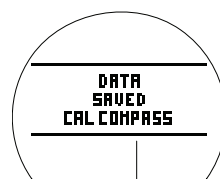

Fig. 140 - DATA HAS BEEN SAVED
- > Graphics DATA SAVED (or CLEARED) with CAL COMPASS appear for 3 seconds (Fig. 140), then operation reverts to the Compass CAL screen.